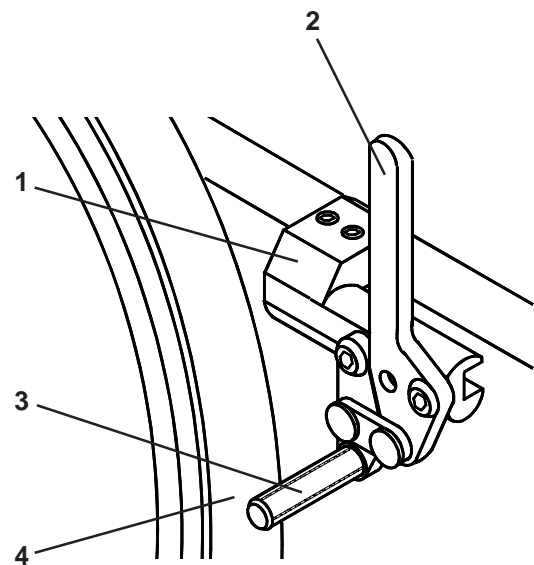

Fig. 20
High mount push-to-lock wheel locks are shown in Fig. 20. The wheel lock mounts on a clamping system (1) and is correctly set prior to leaving the factory. To apply the wheel lock simply push the operating lever (2) forwards until you feel it go over centre, and the grip bar (3) grips the tyre (4).